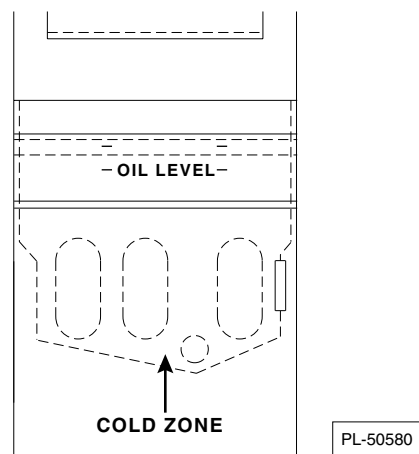

Fig. 7
- A cold fryer will not drain properly. Always filter shortening in a liquid state. The shortening under the cold zone area will remain hard, even if the heat is on for a few minutes. If necessary, use the cleanout rod to carefully stir the hard shortening to an area above the cold zone (Fig. 7) where it will melt.